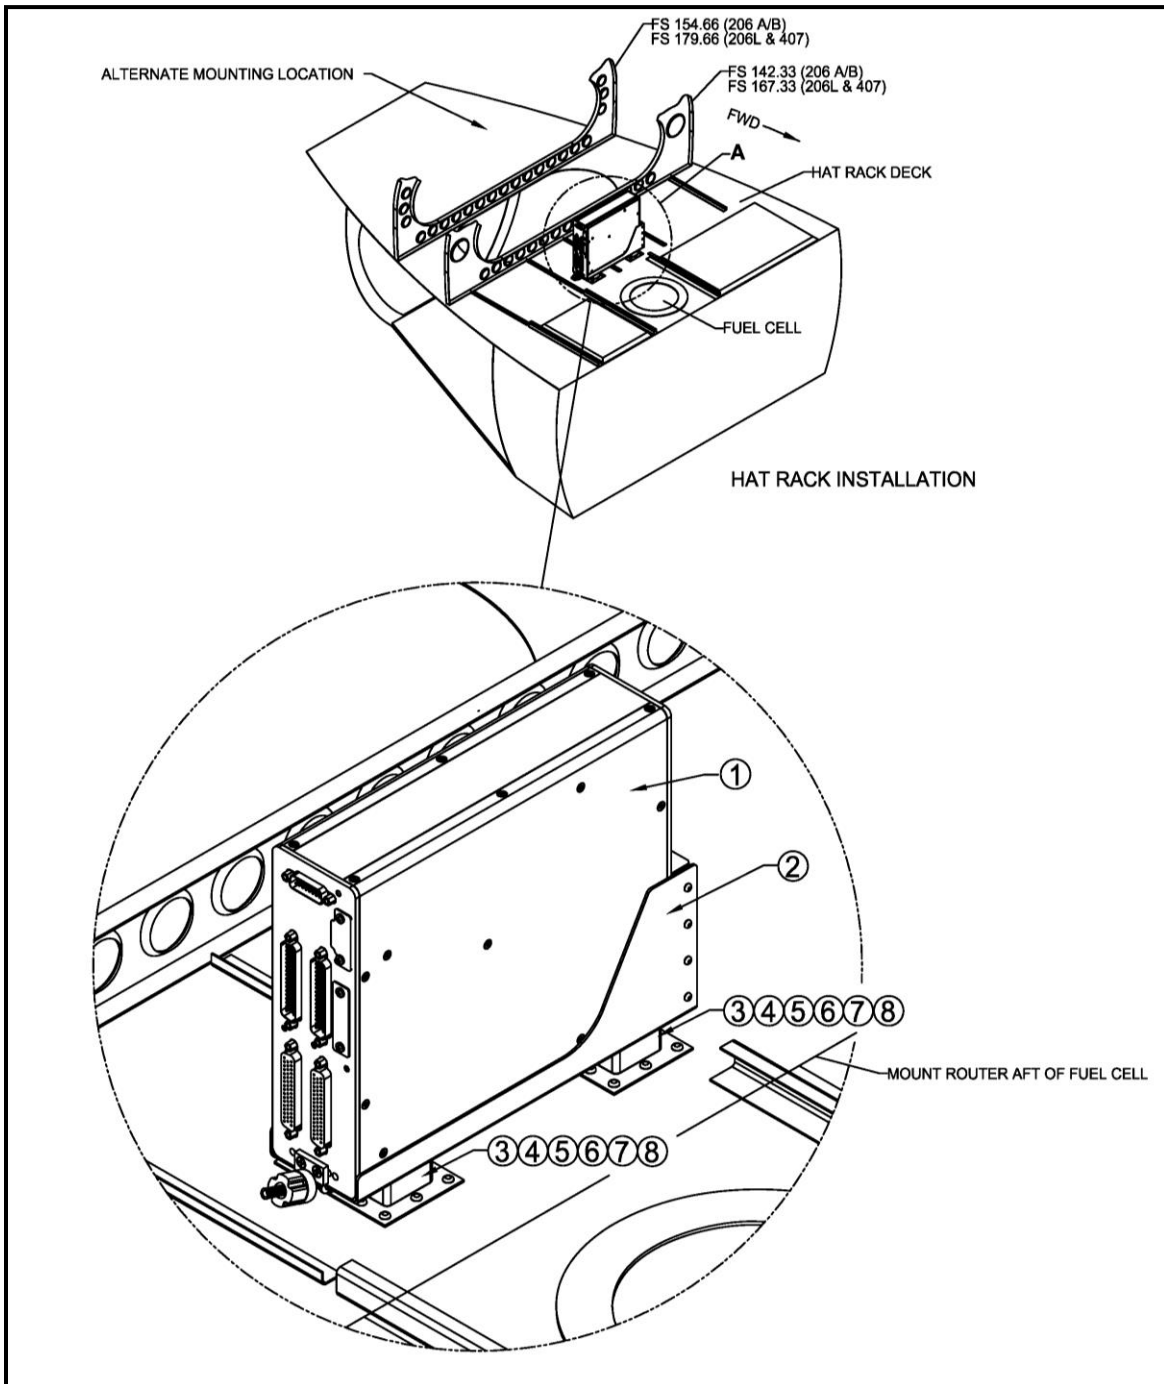
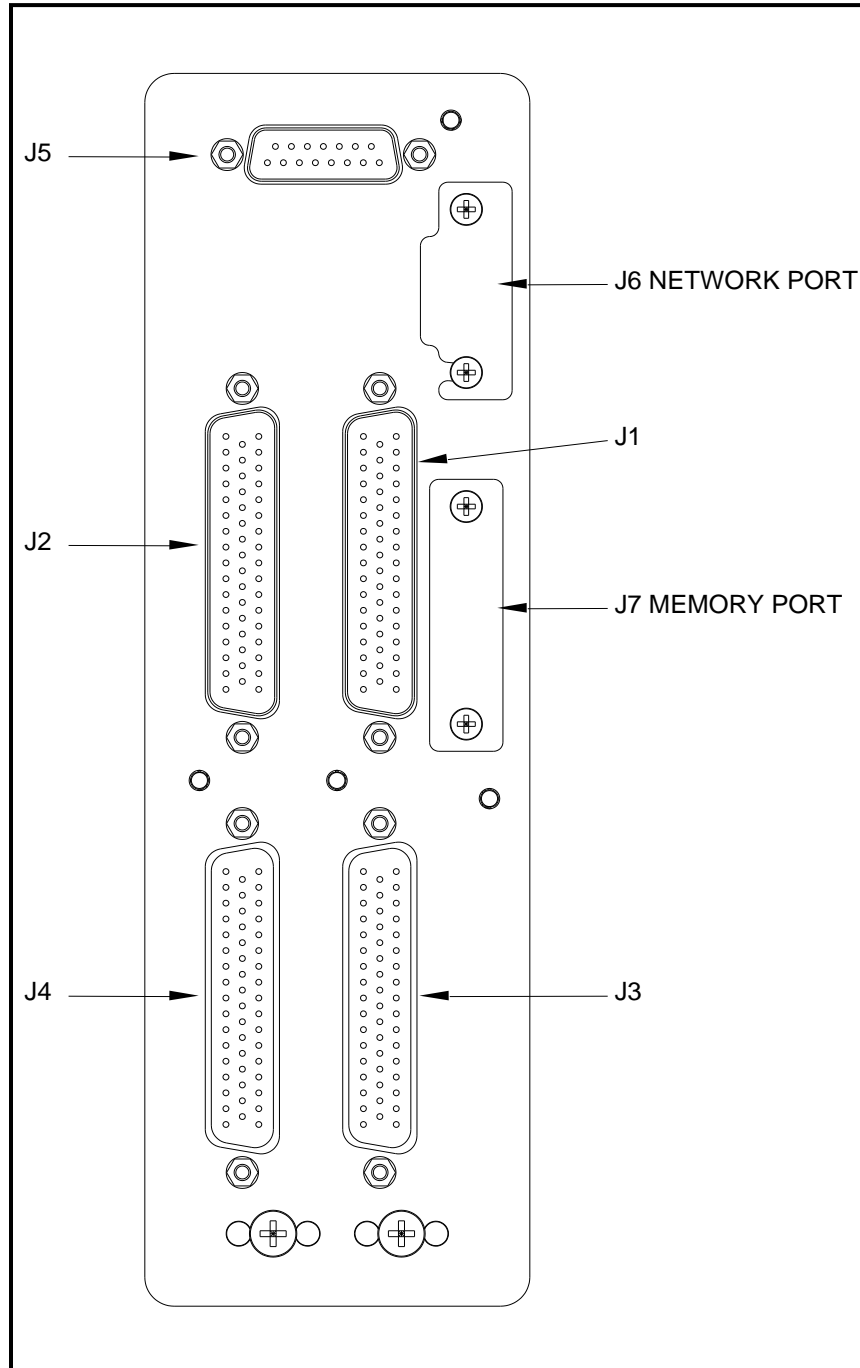
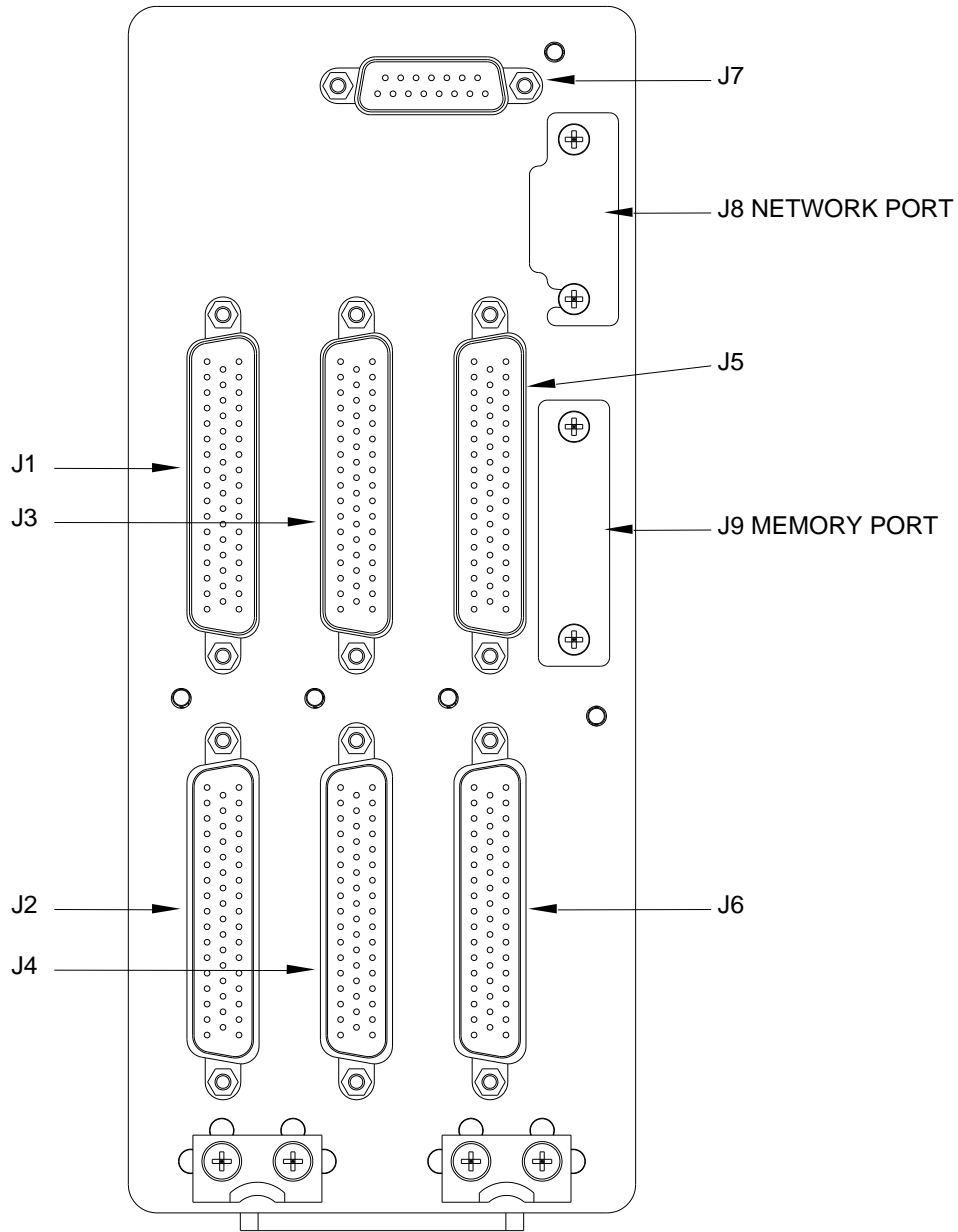

Figure 17: Bell 407 Digital Router Installation Overview
Figure 18: G13000 Digital Router Connector Layout
Figure 19: G13160 Digital Router Connector Layout
- b. Loosen barrel nut on the front of the Router as shown in Figure 17 and slide router out of tray.
- c. Remove the 4 MS24693S277 Screws, 4 #10 NAS1149F0332P Washers, and 4 #10-32 MS21042L3 Locknuts connecting the Tray to the Hat Rack Deck as shown in Figure 17.
- d. To remove the Doublers (G13006-4) drill out the 12 #4 Rivets connecting each doubler to the Hat Rack Deck as shown in Figure 17.
Parts List for Figure 17: For Router G13000 Installation
Parts List for Figure 17: For Router G13160 Installation
- b. Before installing doublers, assemble with tray to maintain proper spacing. For each doubler, back drill Hat Rack Deck and install 12 #4 Rivets, MS20470AD4-4 as shown in Figure 17.
- c. Mount Tray to deck using (2) Shims, 4 MS24693S277 Screws, (4) #10 NAS1149F0332P Washers, and (4) #10-32 MS21042L3 Locknuts.
- e. Reconnect all applicable cables to the Digital Router. Reference Figure 18 and Figure 19 for all Digital Router Connection Ports.